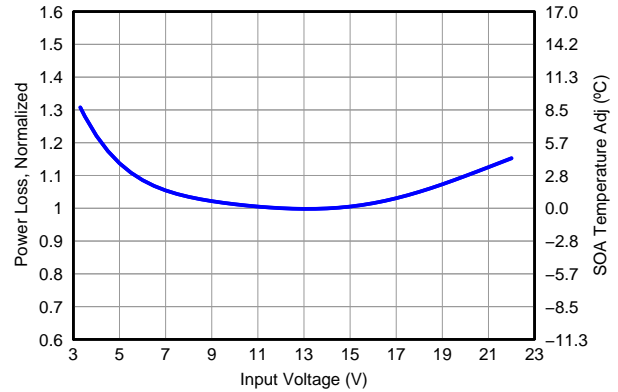

Figure 13. Normalized Power Loss vs Input Voltage
- Normalized Power Loss for input voltage \approx 1.05 (Figure 13)
- SOA adjustment for input voltage \approx 1.4°C (Figure 13)